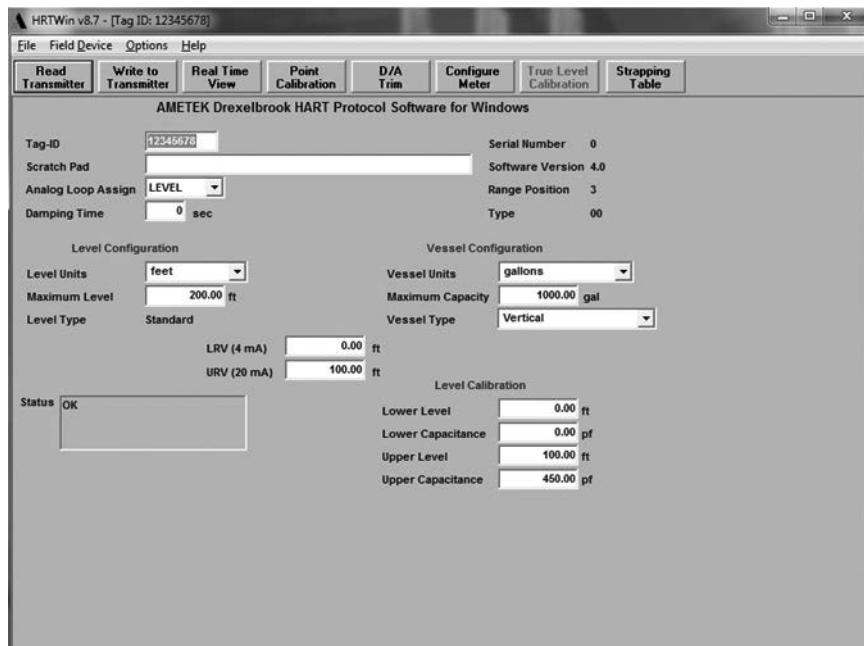

Figure 3-3
- G. The next view, shown in *Figure 3-3*, appears automatically, displaying current transmitter database for calibration set-up for your selected Tag ID. The Scratch Pad will automatically show the last message (last user, last calibration, etc.) up to 32 characters. If this is a new transmitter, the Tag ID is user-defined. Serial number, transmitter software version, range, etc. is automatically entered from the "name plate data" embedded in the transmitter:
Figure 3-3 shows a PC calibration software menu screen. The following paragraphs describe the function buttons. The data fields are described in *Section 3.4 Configuration*.
Refer to *Figure 3-3* PC Software Menu Screen.
See Figure 3-3 (lower right of window)